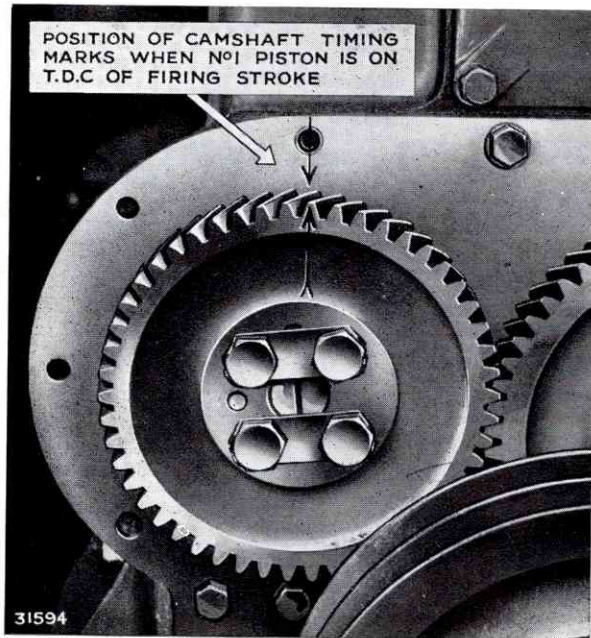

FIG. 28. CAMSHAFT TIMING MARKS
7. Remove the four setscrews and locking plates securing the gear to the camshaft and withdraw the gear, taking care to note the position of the timing mark on the gear in relation to the mark on the timing back plate when No. 1 piston is on T.D.C. of firing stroke (Fig. 28).
2. Fit the camshaft gear so that when the dowel hole in the gear locates on the dowel in the camshaft end, the arrows on the gear face and timing back plate are in line (Fig. 28), that is, 90° to the top face of the engine block.